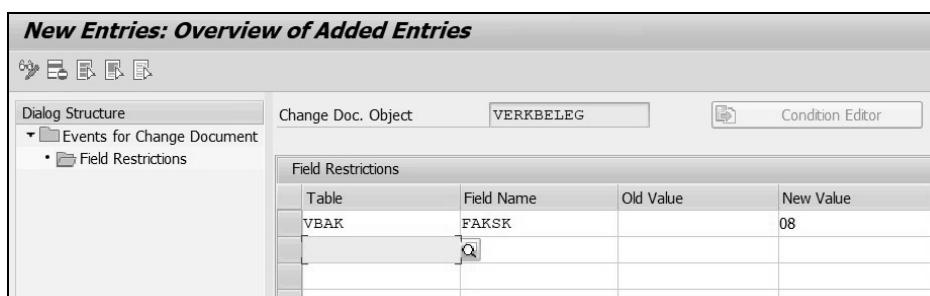

Figure 5.6 Maintaining Field Restrictions for the Event Trigger via Change Documents in Transaction SWEC
- If your condition is a simple comparison of one or more values, then enter it directly as shown in Figure 5.6 with the **Table** name, **Field Name**, **Old Value**, and **New Value** fields.